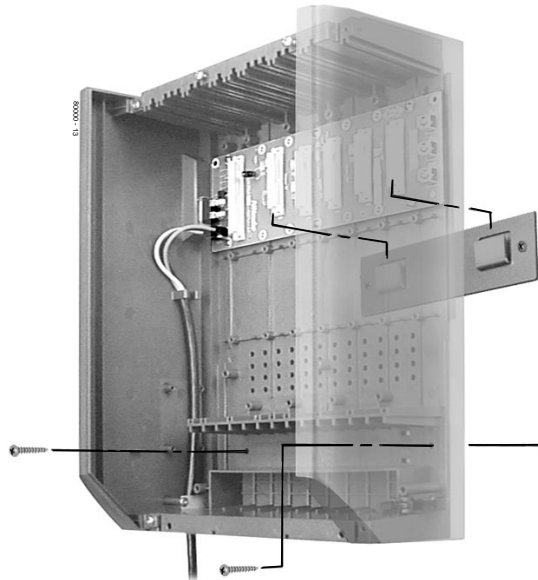

Figure 1-6: Hanging the 4 Slot Cabinet
- See Figure 1-6 *Hanging the 4 Slot Cabinet* below when hanging a 4 slot cabinet.